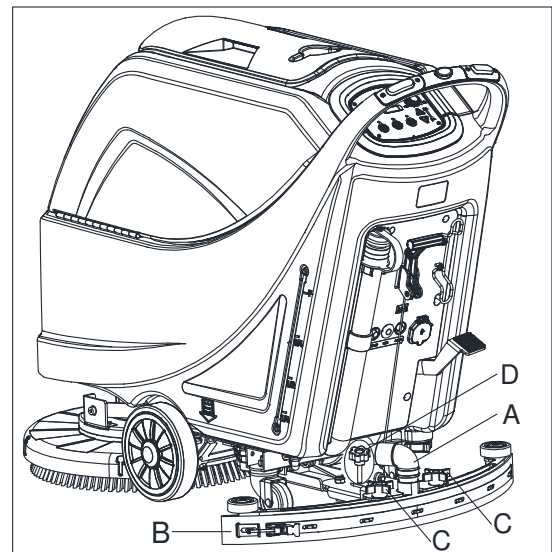
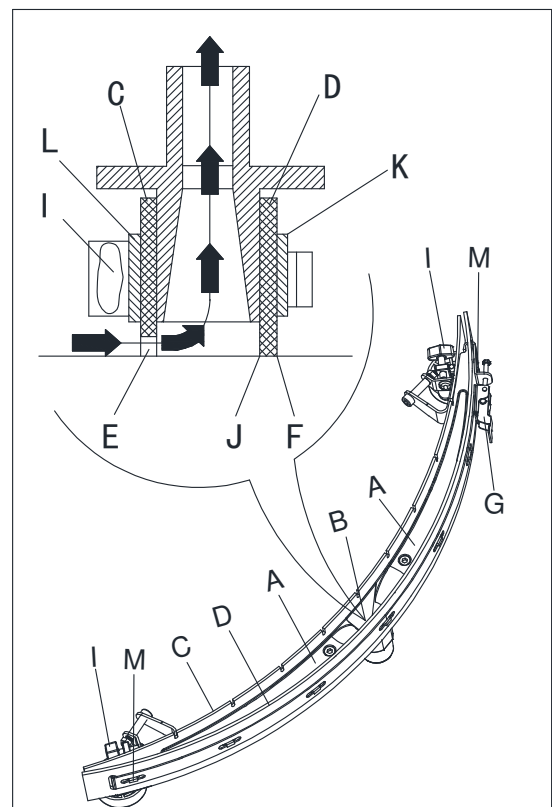

Figure 19
Figure 20
2. Check that the edges (E, Figure20) of the front blade (C) and the edges (F) of the rear blade (D) lay down on the same level, along their length; if necessary adjust their height according to the following procedure:
- Remove the tie rod (G), disengage the fasteners (M) and adjust the rear blade (D), then engage the fasteners (M) and install the tie rod (G).
- Loosen the knobs (I) and adjust the front blade (C), then tighten the knobs.
3. Check the front blade (C) and rear blade (D) for wear, cuts and tears; if necessary replace them according to the following procedure. Check that the front corner (J) of the rear blade (D) is not worn; if necessary, overturn the blade to replace the worn corner with an integral one. If the other corners are worn too, replace the blade according to the following procedure:
- Remove the tie rod (G), disengage the fasteners (M) and remove the retaining strip (K), then replace/overturn the rear blade (D). Assemble the blade in the reverse order of disassembly.
- Unscrew the knobs (I) and remove the retaining strip (L), then replace the front blade (C). Assemble the blade in the reverse order of disassembly. After the blade replacement (or overturning), adjust the height as shown in the previous step.
4. Connect the vacuum hose (A, Figure19) to the squeegee.
5. Install the squeegee (B) and screw down the knobs (C).
6. If necessary, adjust the squeegee balance adjusting knob (D).